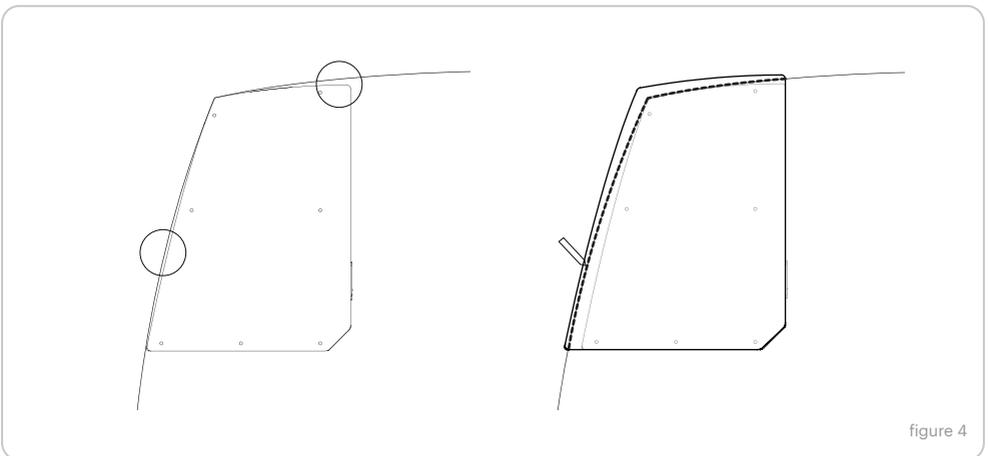

figure 4
**3.** The cabinets are designed to fit the angles most commonly found after wall and ceiling panelling. However when experiencing small gaps between the wall and or ceiling you can add an extra panel to create a neat finishing. Trim your specific angles on a template and place it over the side panel. fig 4